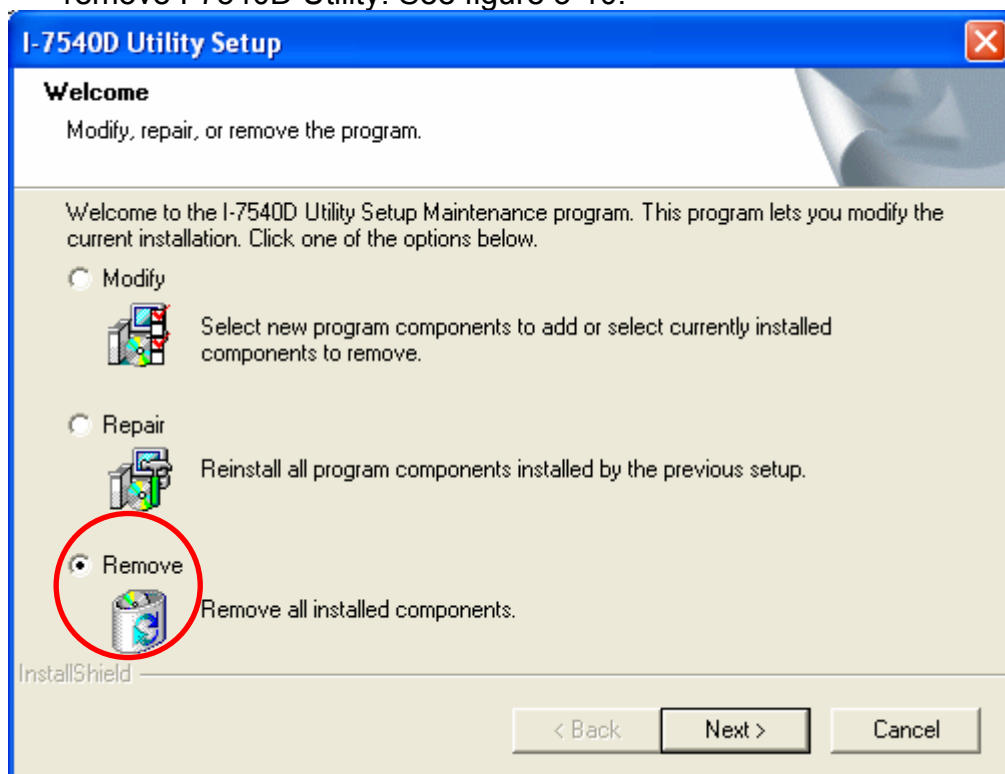

Figure 3-10: “Modify, repair, or remove the program” dialog
Step 4: Select the “Remove” option button, and press the “Next” button to remove I-7540D Utility. See figure 3-10.